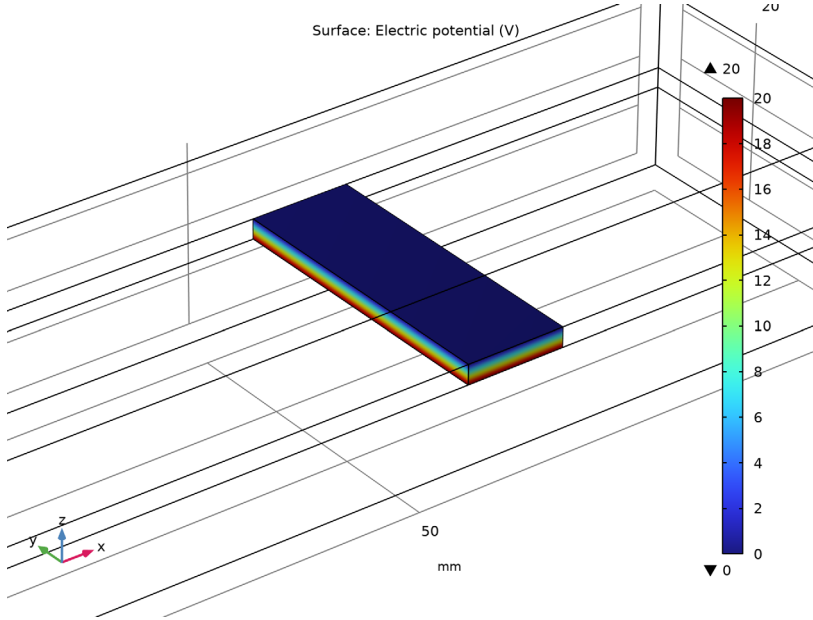

Figure 2: Applied voltage through the piezoelectric material.
- *Electrostatics*: The system applies a 20 V potential difference between the top and bottom surfaces of the piezoceramic domain (Figure 2). This gives rise to an electric field perpendicular to the poling direction (x direction) and thus induces a transverse shear strain.